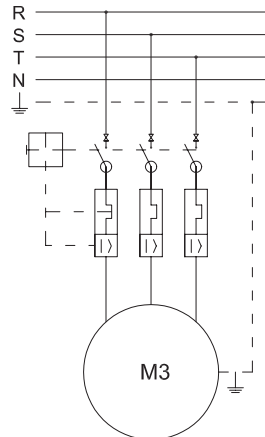

Fig. 6
- Check that the motor rotates in the correct direction by means of the fan located at the back of the motor that can be seen through the view hole on the fan cover (Fig. 6).